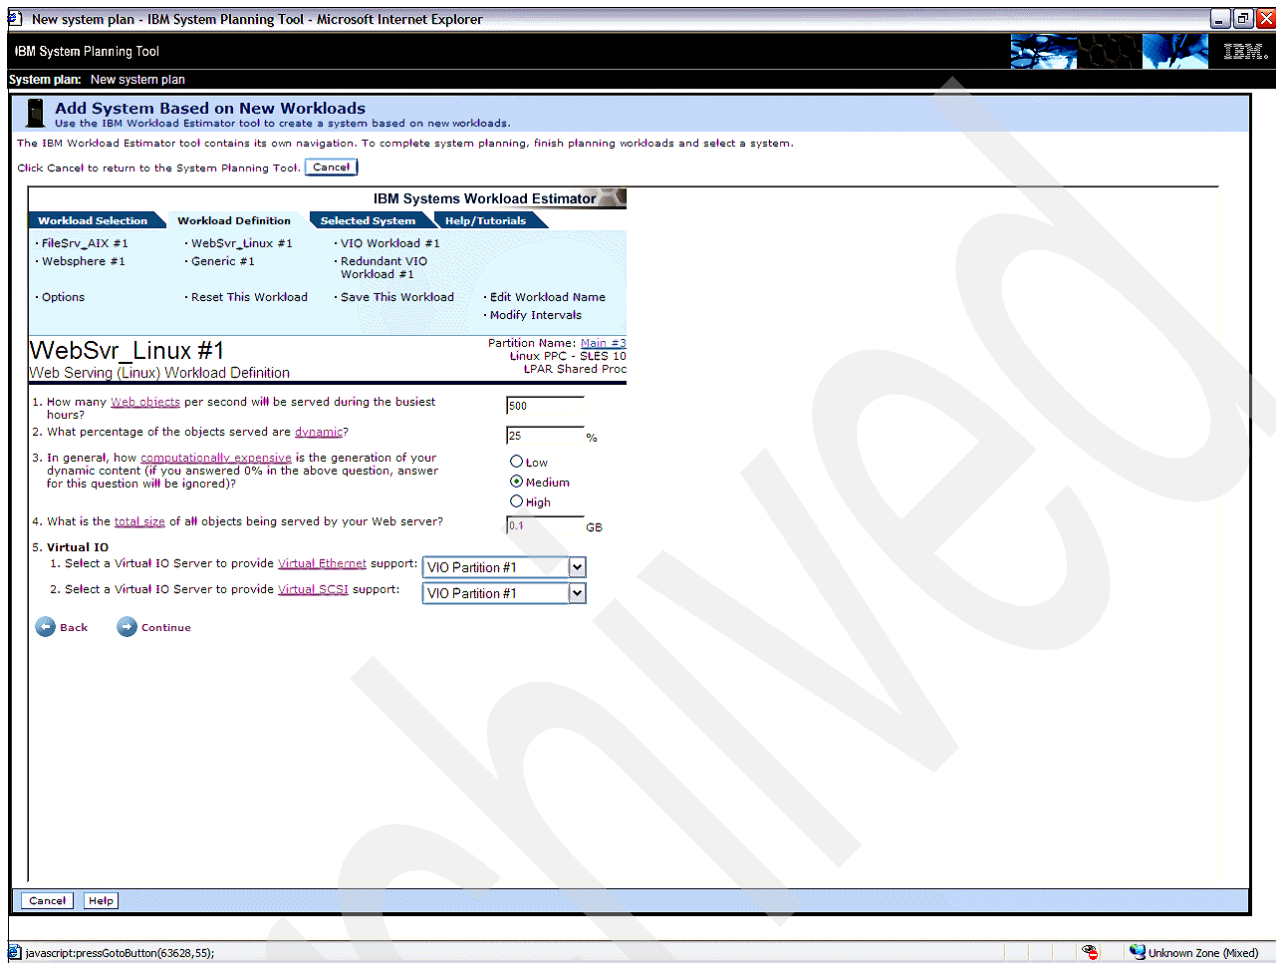

Figure 5-29 Linux Web server
9. The next partition is a Linux Web server, as seen when you defined the partitions and workload in the window shown in Figure 5-23 on page 171. Again the option to add this partition to the Virtual I/O Server is a selectable item. Figure 5-29 shows the options.